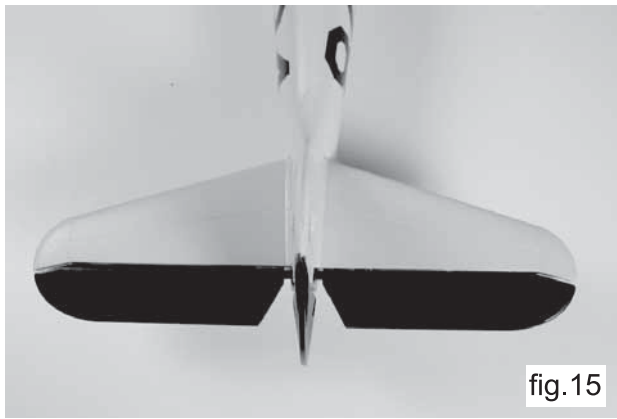

fig.15
- 15) Press the right side stabilizer into place (fig. 15).